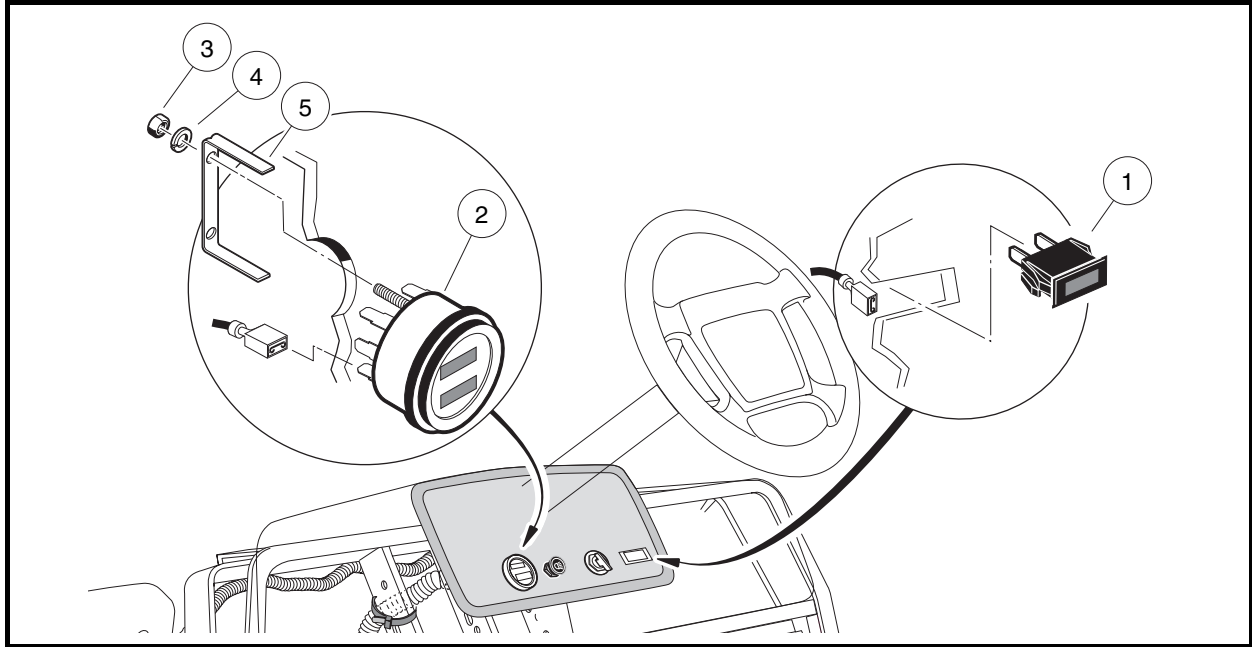

Figure 12-22 Fuel Gauge/Hour Meter and Oil Warning Light Assembly
4. Disconnect the wires from the oil warning light (1) (**Figure 12-22, Page 12-21**). Do not allow wires to touch.
1. Push a new unit into hole in dash until plastic tabs engage dash (**Figure 12-22, Page 12-21**).
4. Disconnect the wires from the fuel gauge/hour meter (2) (Figure 12-22, Page 12-21). Do not allow wires to touch.
5. Remove the two hex nuts (3) and lockwashers (4) from the threaded studs on the back of the fuel gauge. Remove the mounting bracket (5) from the back side of the gauge/meter and remove from the dash.
1. Install a new gauge/meter into hole in dash until flange seats against dash (Figure 12-22, Page 12-21).